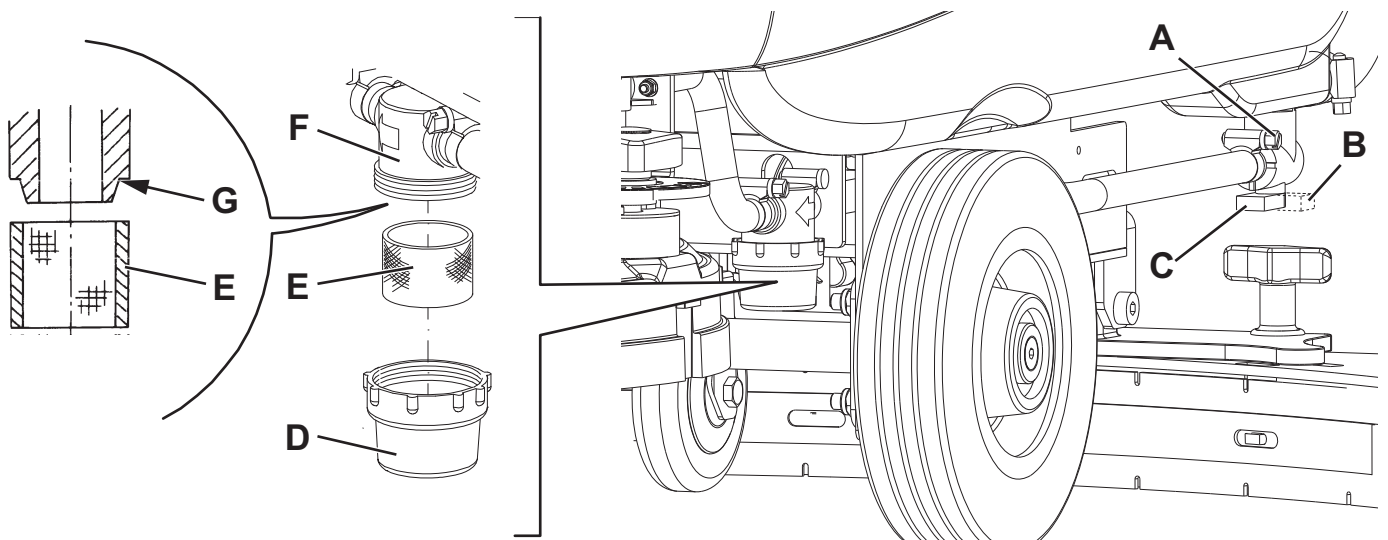

Figure 5
2. Disconnect the power supply cable (3) from the electrical mains.
3. Close the solution tap (A, Fig. 5) under the machine, behind the right rear wheel. The tap (A) is closed when it is in the position (B) and it is open when it is in the position (C).
4. Remove the transparent cover (D), then remove the filter strainer (E). Clean and install them on the support (F).